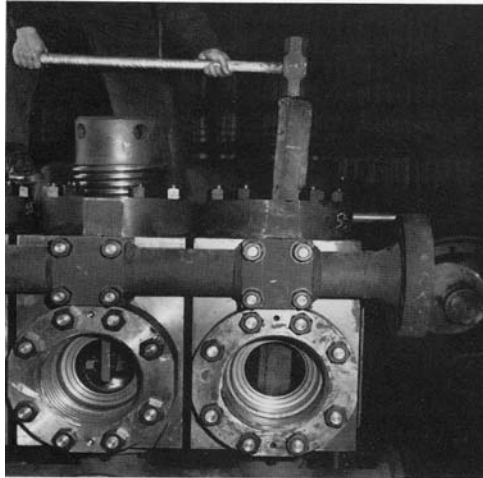

Figure 4-12 Installing valve seat
5. Drive the valve seat into place with a hammer and wooden block (Figure 4-12).